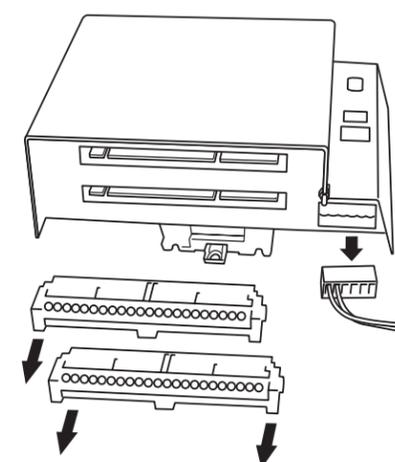

Figure 1.1
- 2 Remove the supply power and Input/Output connectors (figure 1.1).